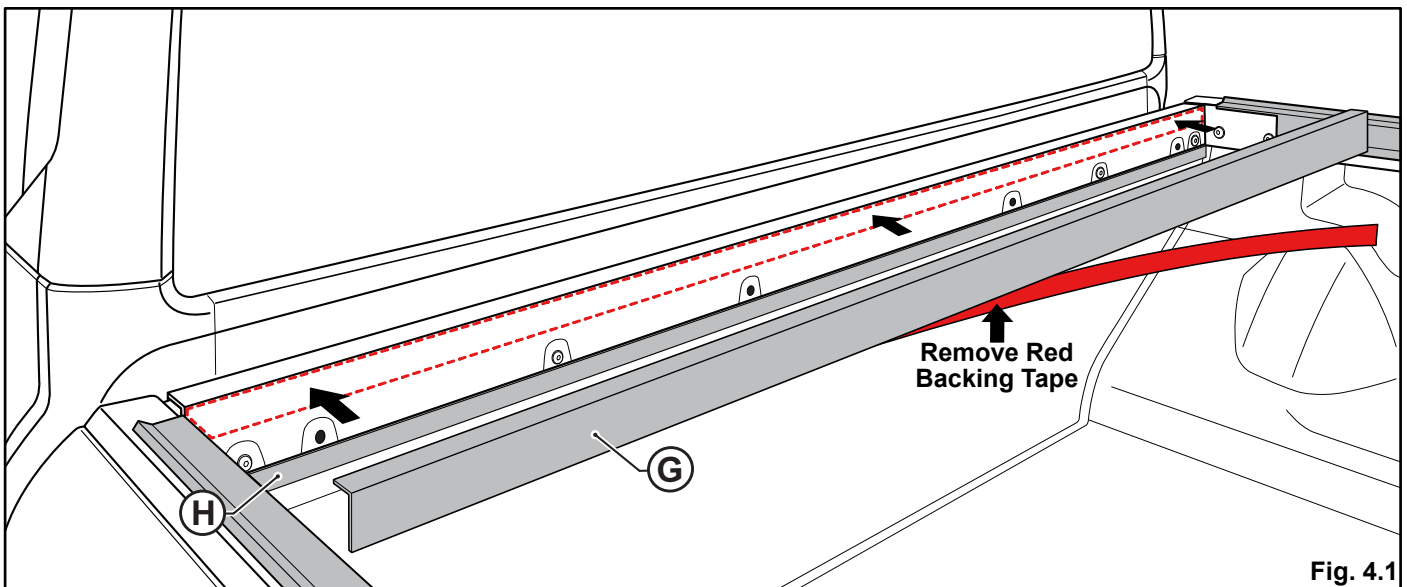

Fig. 4.1
- Wipe the dotted section shown in Fig. 4.1 with Surface Cleaning Alcohol Wipe (L).